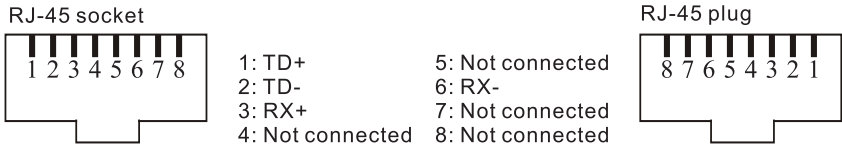

Fig.4.3-3
2. The fixture is provided with 8-pin RJ-45 connector for internet input. Please use use class 5 cables and standard RJ-45 connector for internet connection, Shown as Fig.4.3-3.